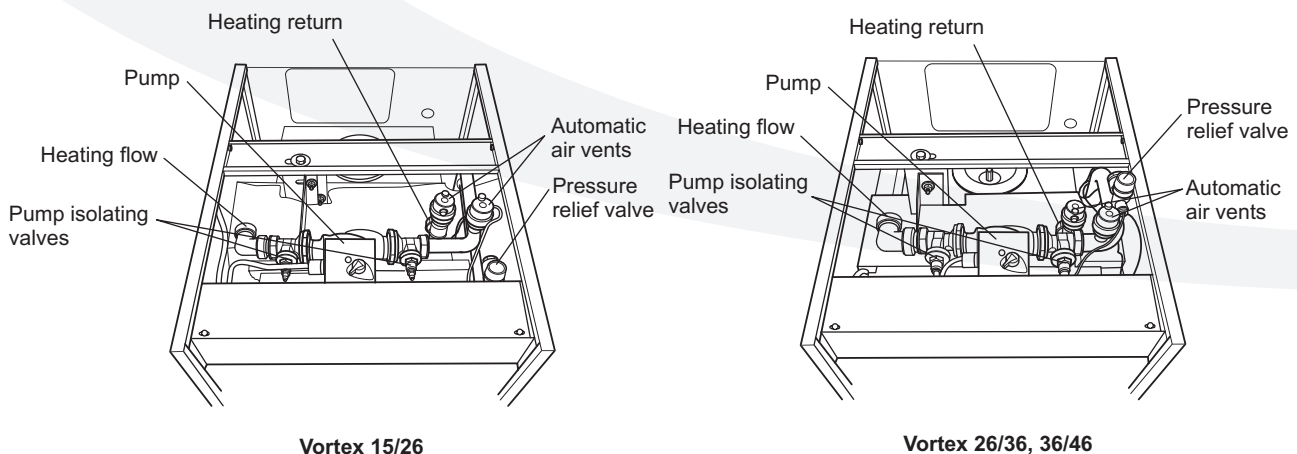

Figure 7-3: Sealed system components
All System models have the following sealed system components factory fitted (refer to Figure 7-3):-
Automatic air vent(s) are fitted to the top of the boiler (see Figure 7-3). Check that the small cap on the top of each air vent is screwed on fully, then unscrew it one complete turn - the cap remains in this position from now on.
1. Check the operation of the safety valve (see Figure 7-3) by turning the head anticlockwise until it clicks. The click is the safety valve head lifting off its seat allowing water to escape from the system.